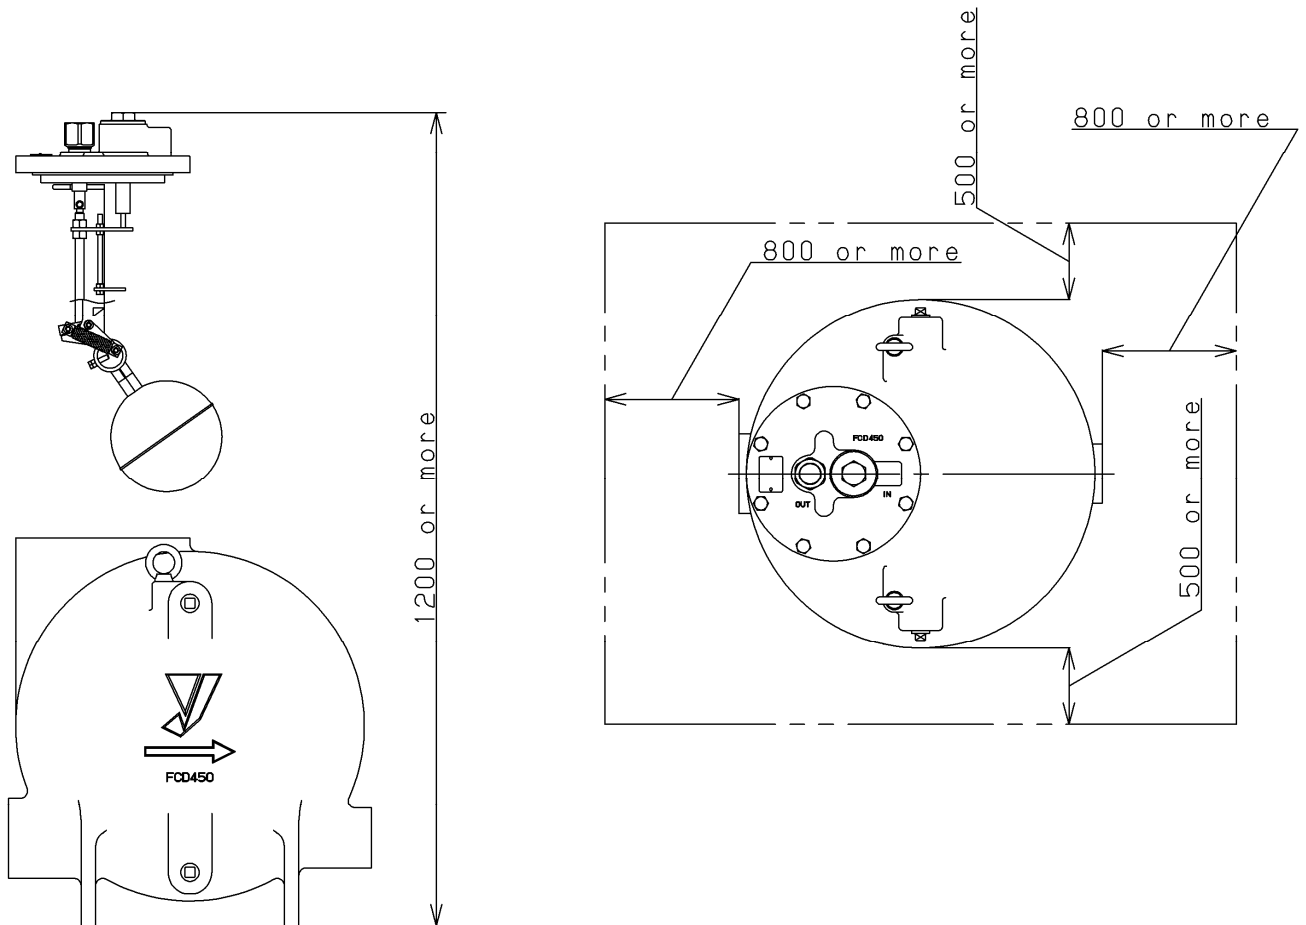

Fig. 7: Maintenance space
11. Be sure to secure maintenance space needed for disassembly and repair of the product. (See Fig 7) The unit is mm.